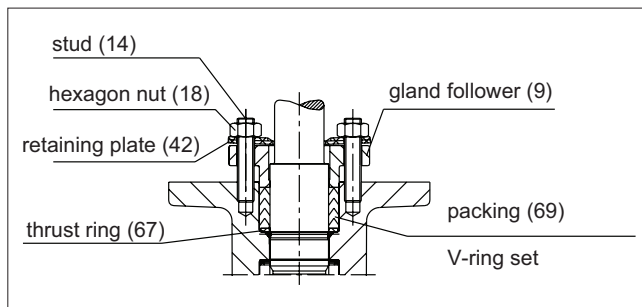

Fig. 7 Gland packing
- Remove the nuts (18) and the retaining plates (42).
- Remove the gland follower (9).
- Remove the packing rings (69) from around the shaft using a knife or other pointed instrument. Make sure that there is no damage to the shaft or the counterbore. Please note that the thrust ring (67) may come off as you remove the packing. It should be placed back in its position before installing the new packing.
- Place the new packing rings (69) around the shaft (5) and in the counterbore, e.g. using the gland follower (9). See Figure 7 for correct position of the packing.
- Fasten the gland follower (9) and the retaining plates (42), place the nuts (18) on the studs (14) and tighten them first by hand and then 1.5-2 turns with a tool.